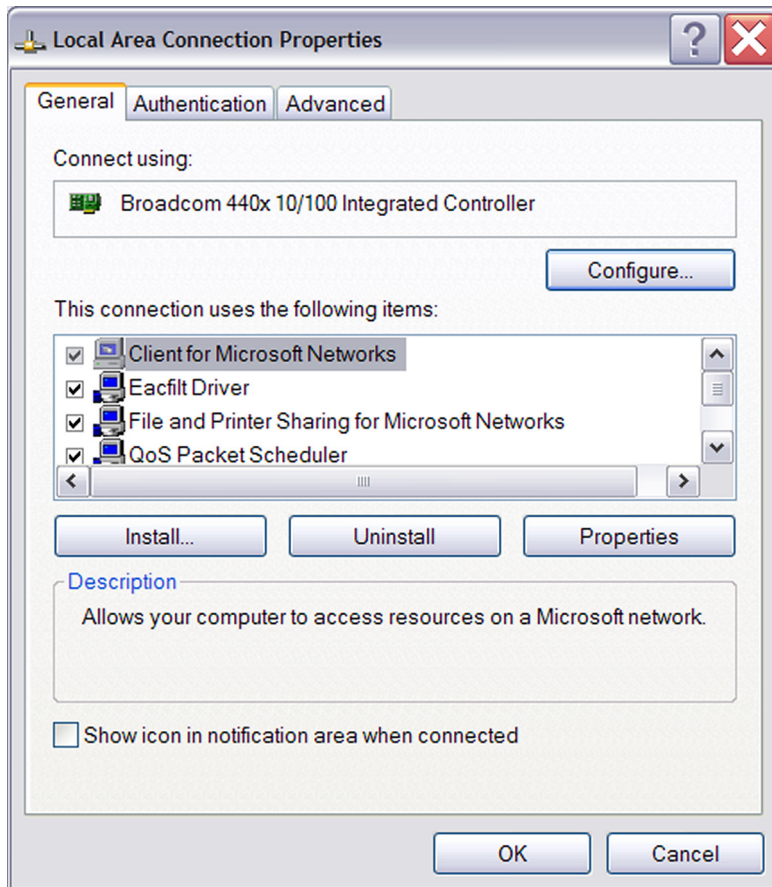

Figure 4. Local Area Connection Properties Dialog Box
3. In the **Local Area Connection Status** window, click **Properties** button. The **Local Area Connection Properties** dialog box appears, see Figure 4.